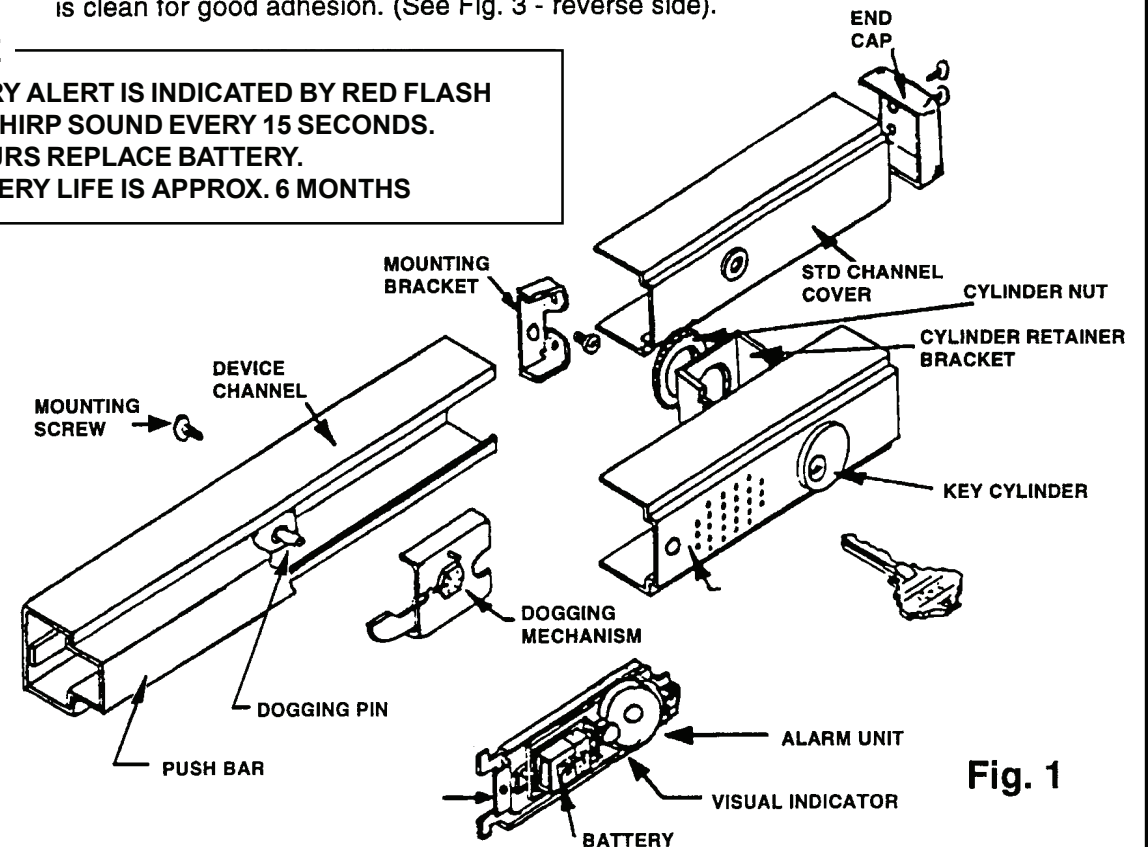

Fig. 1
4. Install alarm unit (For fire devices see Fig. 2 reverse side) into device channel by sliding it from open channel end up to dogging pin (See Fig. 1). lift alarm unit and insert alarm unit actuator over dogging pin. Install alarm unit retaining screw (supplied with unit) from device channel rear side (See Fig 7) and securely tighten. Do not use mounting screw from dogging mechanism.
6. Insert key cylinder (supplied) into cylinder access hole in alarm channel cover with keyway oriented as in Fig. 1. 1 1/8" long mortise cylinder with standard 'A' cam recommended. Longer cylinders with appropriate spacers can be used.
7. Slide cylinder retainer bracket over threaded end of key cylinder (See Fig. 1) inside alarm channel cover. **NOTE!** Notches in cylinder bracket engage recess notches in cylinder to prevent cylinder from turning.
8. Thread cylinder nut onto key cylinder, check orientation of keyway with respect to channel cover (See Fig. 1), then tighten securely.
9. Check battery of alarm unit to see that it is positively engaged into battery post clip. (See Fig. 1).
11. Slide alarm channel cover into channel properly orienting cover with respect to device (See Fig. 1), push alarm channel cover up to push-bar of device.
- Measure distance "Y" from vertical C/L to stop surface on hinge side. See Fig. 1